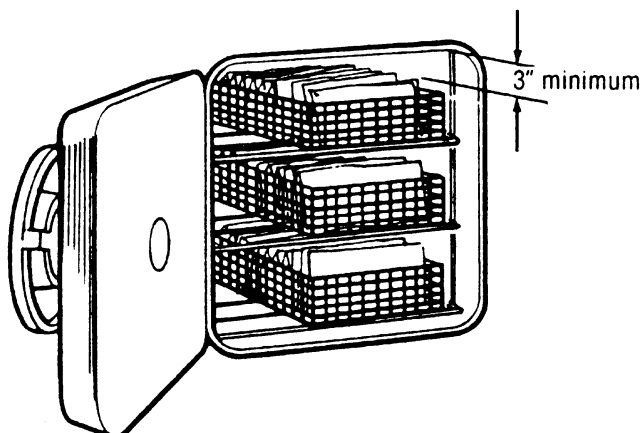

Figure 27. PROVIDE AT LEAST 3 INCHES BETWEEN THE STERILIZER CHAMBER CEILING AND THE TOPMOST PACKAGE.
- e. Provide **at least 3 inches** between sterilizer chamber ceiling and the topmost package of the load to facilitate sterilant circulation and aeration (Figure 27).